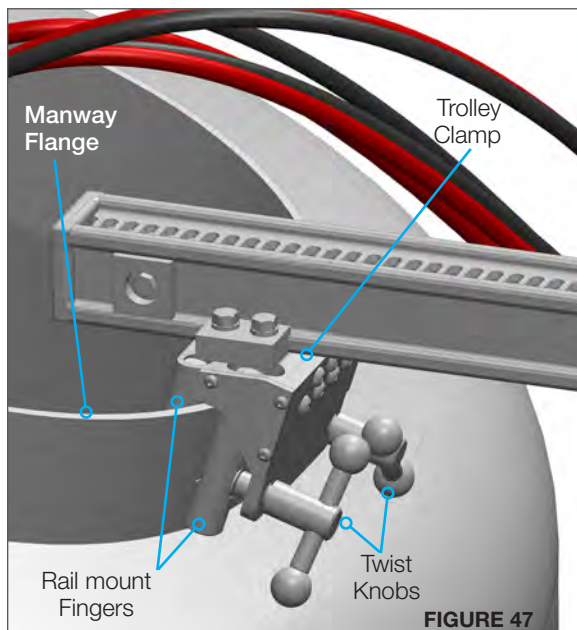

FIGURE 47
2. Center the manway flange between the Fingers of the Trolley Clamp and loosely tighten with the Twist Knobs. **(Figure 47)**